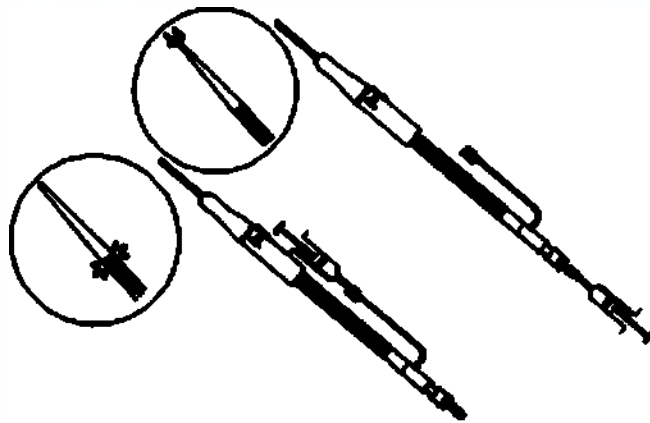

Fig 3 Flush the inner tube and the outer sheath
- ◆ Attach the syringe with heparinized saline to the luer hub and hemostatic valve and flush separately to evacuate air from the inner tube and the outer sheath. (Fig.3)